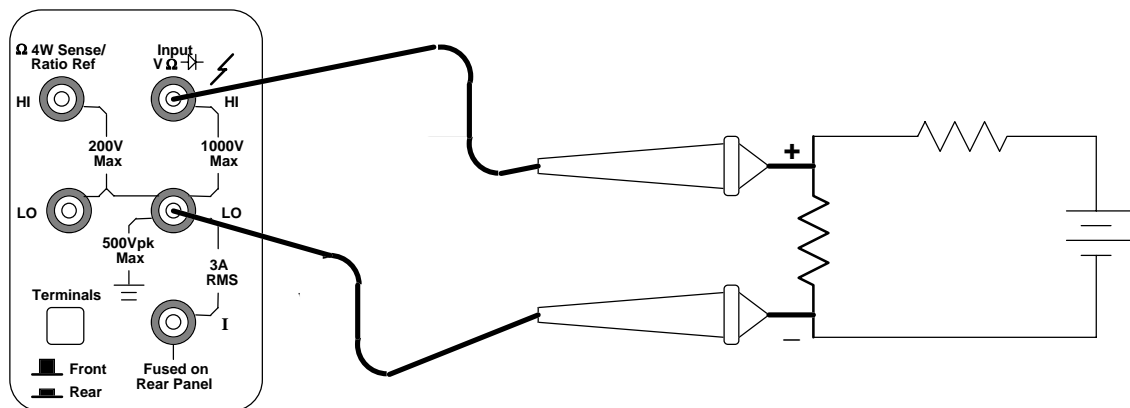

Figure 5 Voltage measurement. Note the location of where the leads attach to the DMM.
- Connect leads to the **HI** and **LO** terminals marked **1000 V Max** (see Figure 5). Voltmeters are connected in parallel with the element. We do not need to modify the circuit when making voltage measurements. Since voltages are measured “across” an element, we simply place the leads across the two points in the circuit.
Use the **HI** and **LO** terminals marked **1000 V Max** (as you would for voltage measurements -- Figure 5). The meter can measure frequency from 3 Hz to 300 kHz (period from 0.33 sec to 3.3 μ sec). For frequency and period measurements, ranging applies to the signal's input *voltage*, not its frequency.